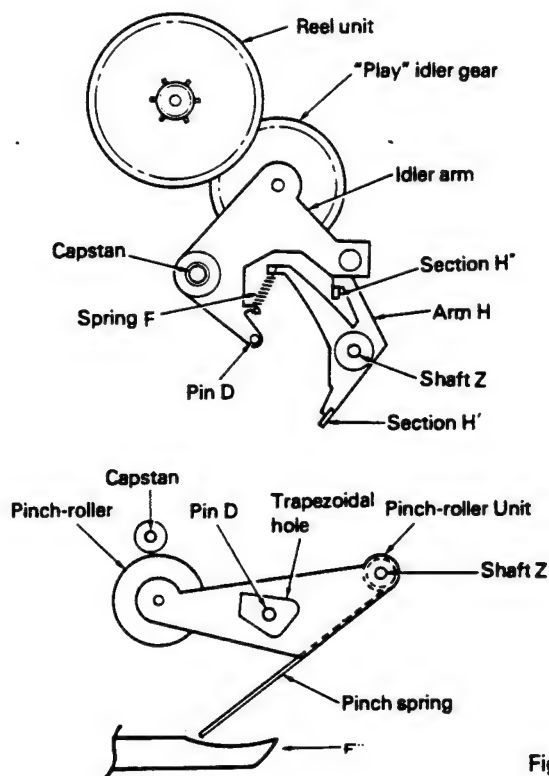

Fig. 17
5. After the head base goes beyond the MS pattern (Fig. 16-⑥) position, the arm "F", "F" part pushes the pinch roller unit pinch spring and presses the pinch roller down onto the capstan. (Fig. 17)
6. Simultaneously, the arm "F", "F" unit pushes the arm "H", "H" part. The "H" part lock releases when pushed, and the play idler gear comes into contact with the reel unit. Play operation begins because of this. (Fig. 16-⑤, Fig. 17)